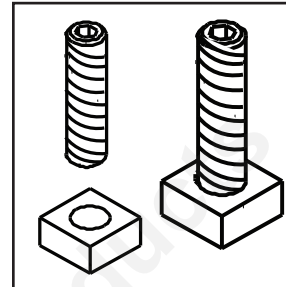

Figure 20.2
8. Thread allen bolts through nuts until flush (**Figure 20.2**)